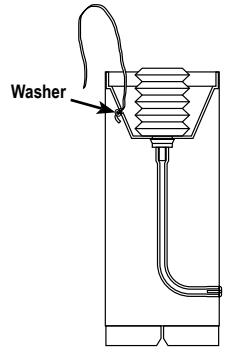

Figure 16
3. Tie the washer to one end of the elastic shock cord. Poke the other end of the shock cord through the hole in the side of the bellows cup. Pull the cord through the cup until the washer rests against the hole on the outside of the bellows cup (Figure 16).